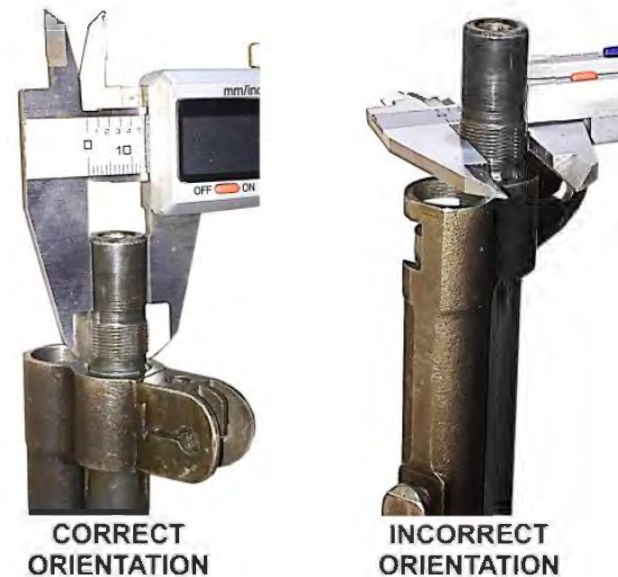
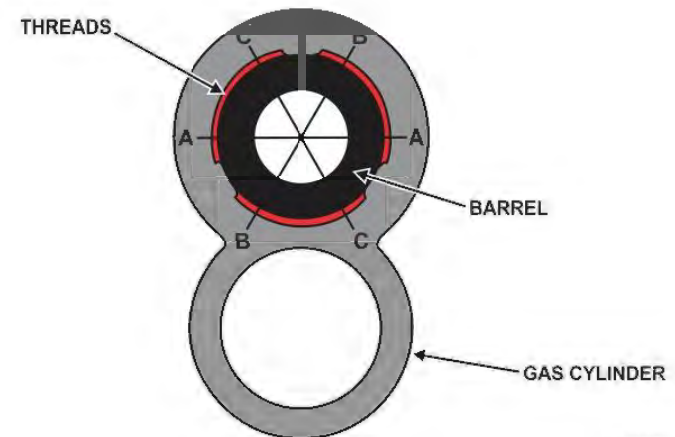

Figure 84: Barrel/ Caliper Orientation
Figure 85: Barrel Thread Measurement Locations – View Looking at Muzzle
- ii. Open the caliper and place barrel threads between the flat sections of the outside measuring contacts. The caliper should be positioned so that the barrel is protruding through the caliper contacts (Figure 84). Rotate the caliper around the barrel to take measurement A (Figure 85). Slowly close the caliper by using the adjusting roller until the contacts come into contact with the threads of the barrel. The contacts should be centered across the diameter of the barrel.